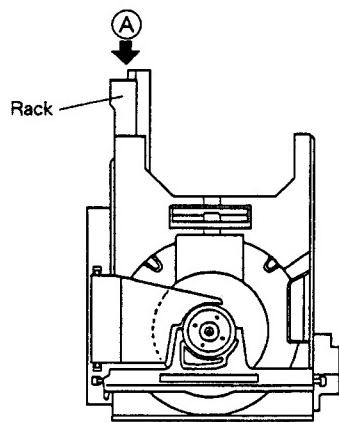
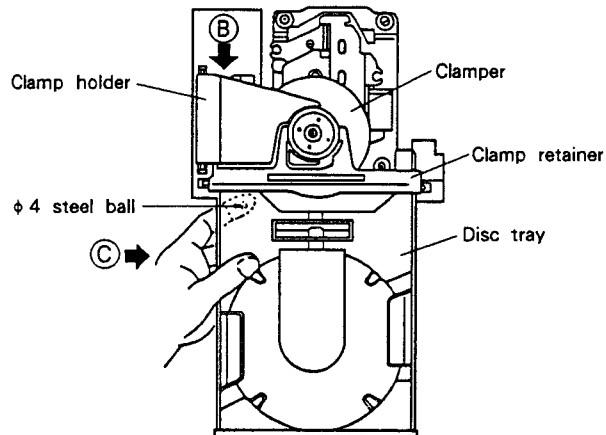
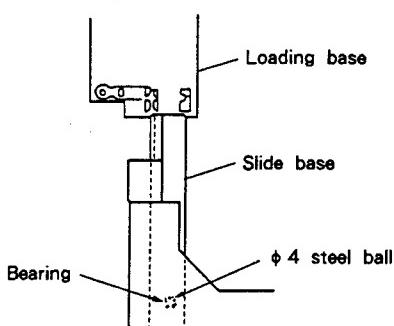

Fig. 7-4
Fig. 7-5
Fig. 7-10
1. Press the rear edge of the rack. (\*1) marked Ⓐ in Fig. 7-4, while pulling the disc tray out to the position where it catches, illustrated in Fig. 7-5.
2. While pulling the clamp holder Ⓑ(see Fig. 7-5) upward with the right hand, hold the tray as indicated by Ⓒ in the left hand and pull it outward. Take care not to allow the ø4 steel ball to fall (we recommend holding the ball in place with the left index finger while extracting the tray.)
<p>Re-mount the disc tray according to the following procedure when the grating adjustment is complete.</p> <ol style="list-style-type: none"> <li>1. Remove the disc and the spacer.</li> <li>2. While lifting the clamp holder [marked ② in Fig. 7-5] with the right hand, hold the tray in the left hand as indicated by ① and slide the slide base into the hard resin fittings on the loading base as shown in Fig. 7-10 to re-insert the disc tray.</li> <li>At this time, be sure to hold the steel ball in place with the index finger of the left hand. Also, be careful that the front panel is not damaged by the slide base and bearing of the steel ball's bearing (in the slide base) coming into contact with the panel.</li> <li>3. Insert the slide base so that it fits into the two hard resin fittings at the rear of the loading base (see Fig. 7-11).</li> <li>4. Insert the tray tightly.</li> </ol>